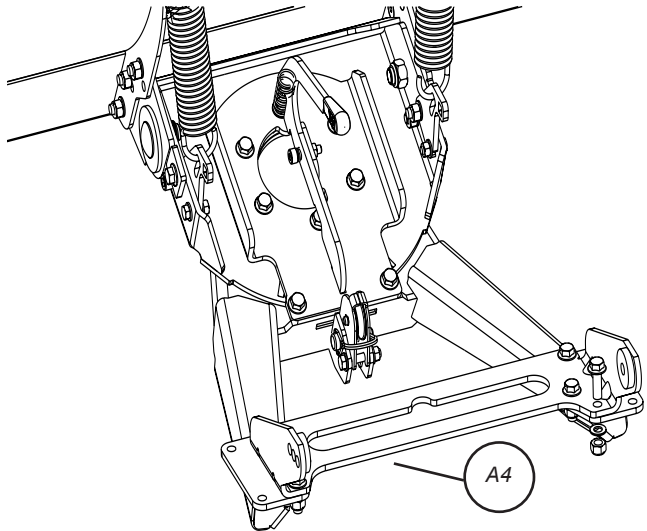

Figure 12 Install Plow Mount Flange
16. See Warn plow push tube instruction manual for installing plow mount flange (A4). See Figure 12.